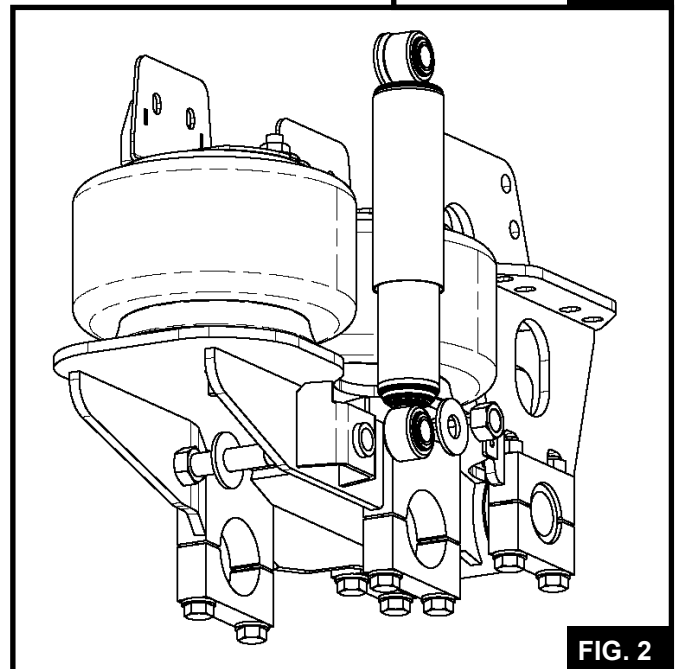

FIG. 2
5.3 Install and align the lower shock eye to the shock bracket of the trailing arm (See FIG. 2).
5.4 Insert the 1" hex bolt through the shock bracket and through the lower shock eye and install the flat washer and hex nut (See FIG. 2).